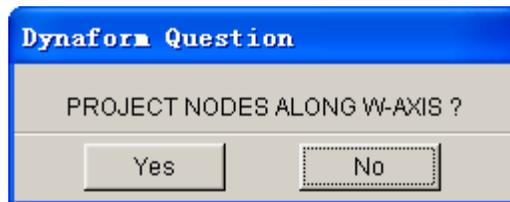

Figure 5.4.3 Project Node Question dialog box
- An eta/DYNAFORM Question dialog box as illustrated in Figure 5.4.3 is displayed.